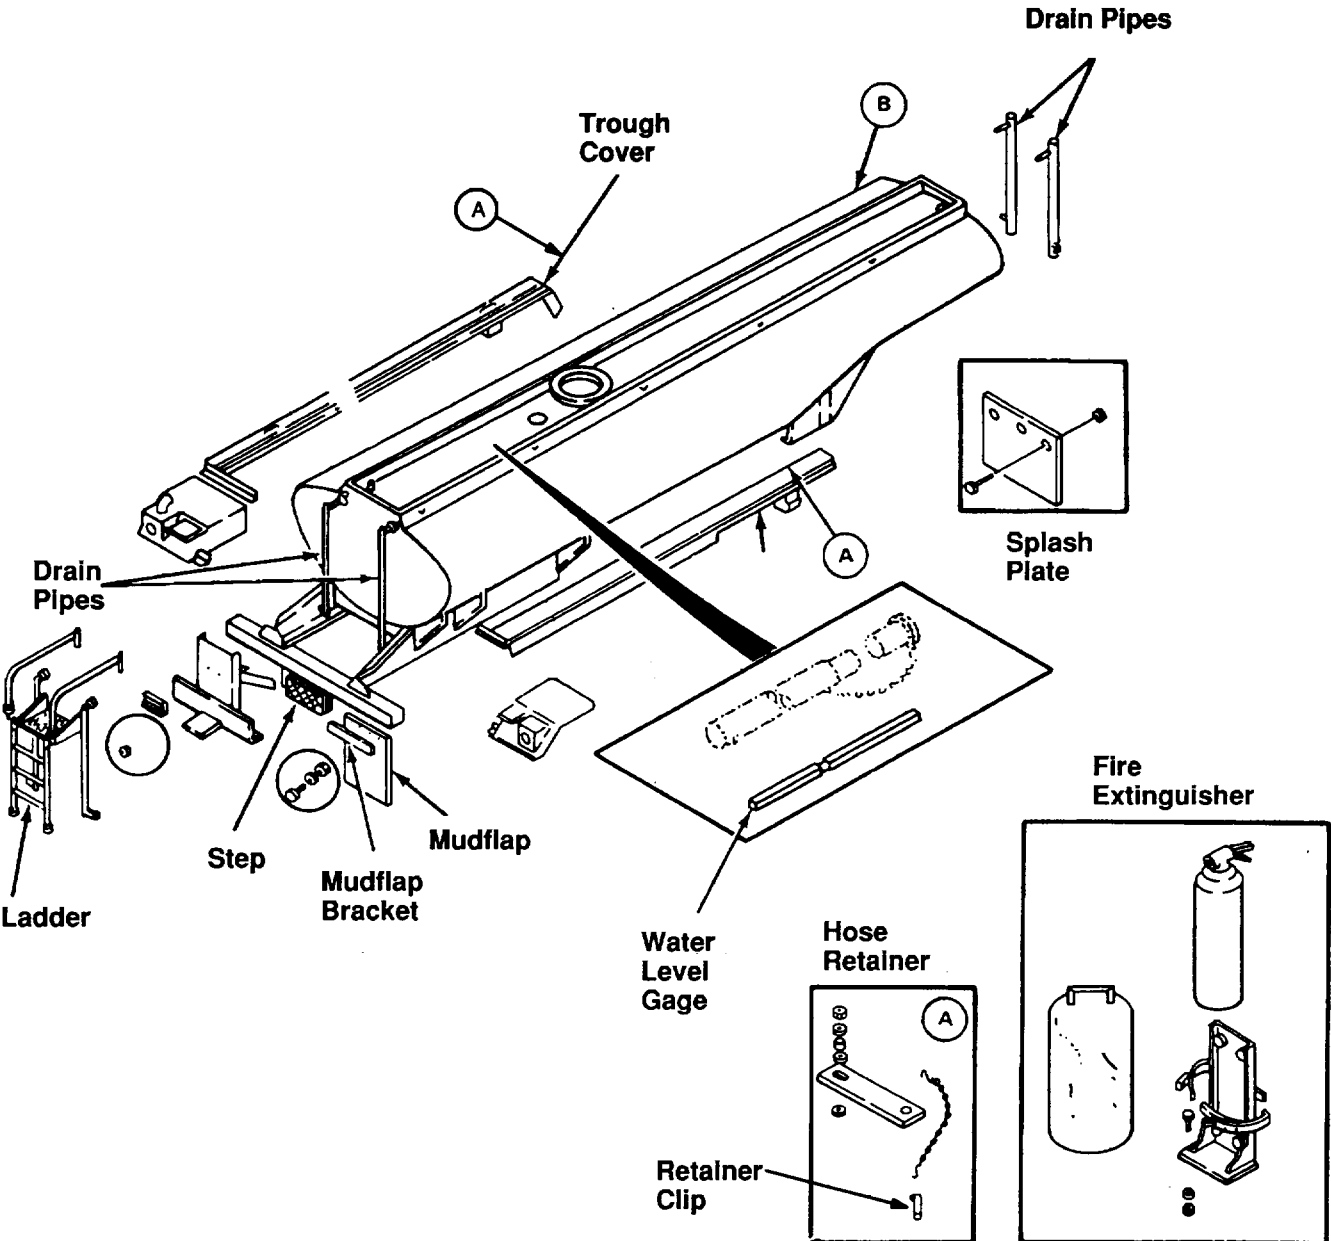

Figure 4-65. Tank Body Parts
4-58. Tank Body, Fig. 4-65.
4-59. Ladder and Drain, Fig. 4-65.
a. Adjustment (Fig. 4-65).
(1) Remove padlock, release safety latch (13) and open fill cover (7).
(2) Loosen locknut (5) on underside of fill cover and close fill cover.
(3) Loosen or tighten adjusting bolt (14) in center of strongback until latch just clears the secondary latch on end of strongback.
(4) Open fill cover (7) and tighten locknut (5).
(1) Position manhole cover gasket (10). Set manhole cover (9) in place and retain with clamp (4).
(2) Secure clamp with bolt (1), washer (2), and nut (3).
*a. Removal.* Remove retainer clips from hose retainers, slide bar aside, and remove hose from trout fig. 4-65.